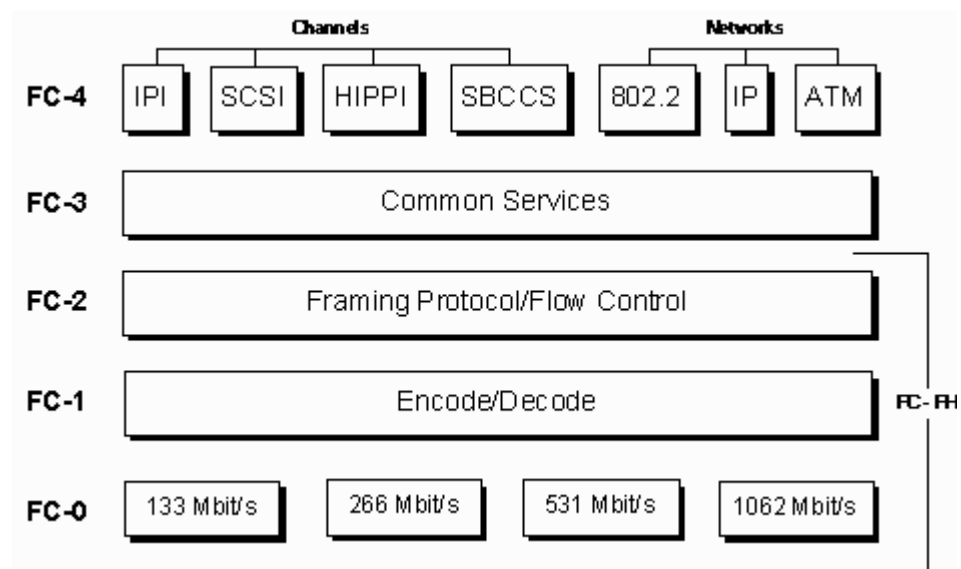

Figure 17. Fibre Channel Layers
Fibre Channel (FC) is broken up into a series of five layers. The concept of layers, starting with the ISO/OSI seven-layer model, permits development of one layer to remain independent of the adjacent layers. Although FC contains five layers, those layers follow the general principles stated in the ISO/OSI model. The five layers are divided into two parts, Physical and Signaling layer and Upper layer. The five layers are illustrated in Figure 17: